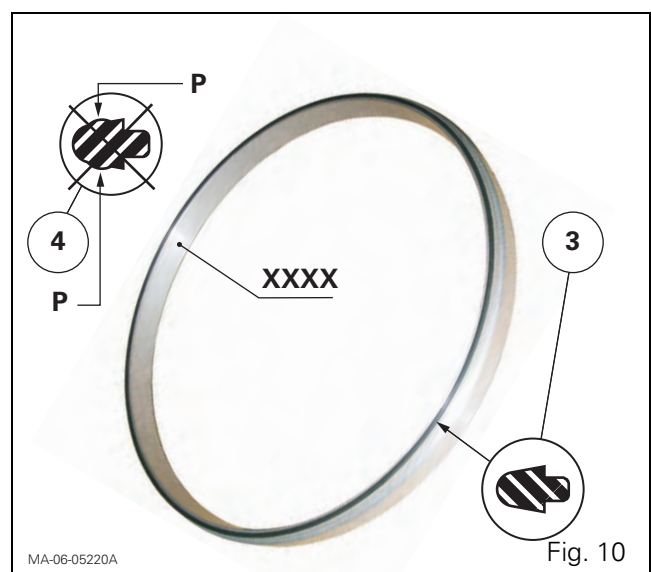

Fig. 10
21. Fit a new HNBR seal (3) to service tool ref. xxxx (Fig. 10) (see § K).
IMPORTANT: The HNBR seal (3) has no spurs P (Fig. 10). Do not confuse it with the NBR seal (4) (Fig. 10). The NBR seal (4) is not fitted to this type of trumpet housing, but it is worthwhile noting that it is referenced in the spare parts catalogue and is not a substitute for the HNBR seal (3) (Fig. 10). Their components are therefore different.